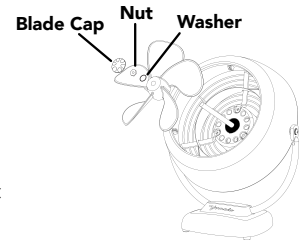

Fig. 1
**VFAN JR:** Remove the Blade Cap by wedging a cloth wrapped screwdriver under the Blade Cap. Next, remove the Nut by rotating clockwise and then remove the Washer. Pull the fan blade straight out from the shaft (Fig. 1). When replacing, the Blade can only go on the shaft one way. Push the Blade all the way on the shaft until it bottoms out. Do not use a hammer as this could result in bearing damage. Replace the Washer, the Nut, and then just press the Blade Cap in place to secure.